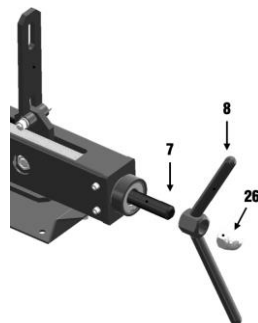

Fig. 1
2. Screw the handle (#8) onto the lead screw (#7) and then secure by screwing an M20 nut (#26) onto the end of the lead screw (Fig. 1).